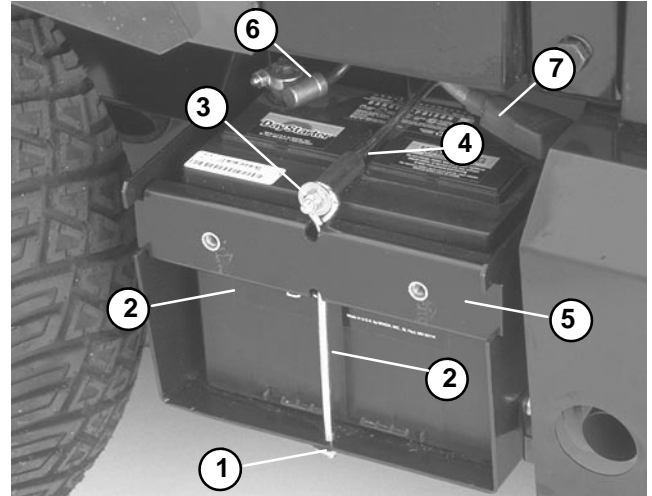

Figure 68
Removal (Fig. 68 and 69)
5. Install battery bracket and threaded rod to the battery rod and frame. Install lock nut and washer to battery rod. Install lock nut to threaded rod (Fig. 68).